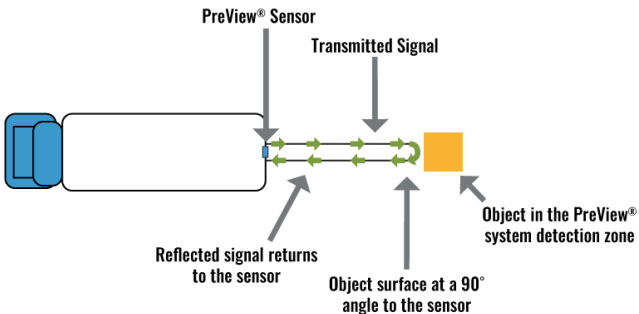

Figure 5 - Object Reflection
**Angle** – an object flat side perpendicular to the sensor will reflect more energy than an object at an angle. See Figure 5 for an example of how angle can affect return energy.